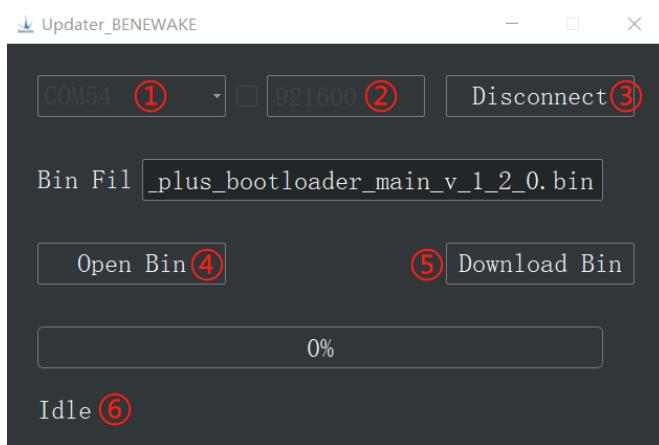

Figure 7 Firmware Upgrade PC software of TFmini-S
Open the PC software and select “① TFmini” and select automatically recognized occupied serial port (here it is “② COM9”), as shown in Figure 7